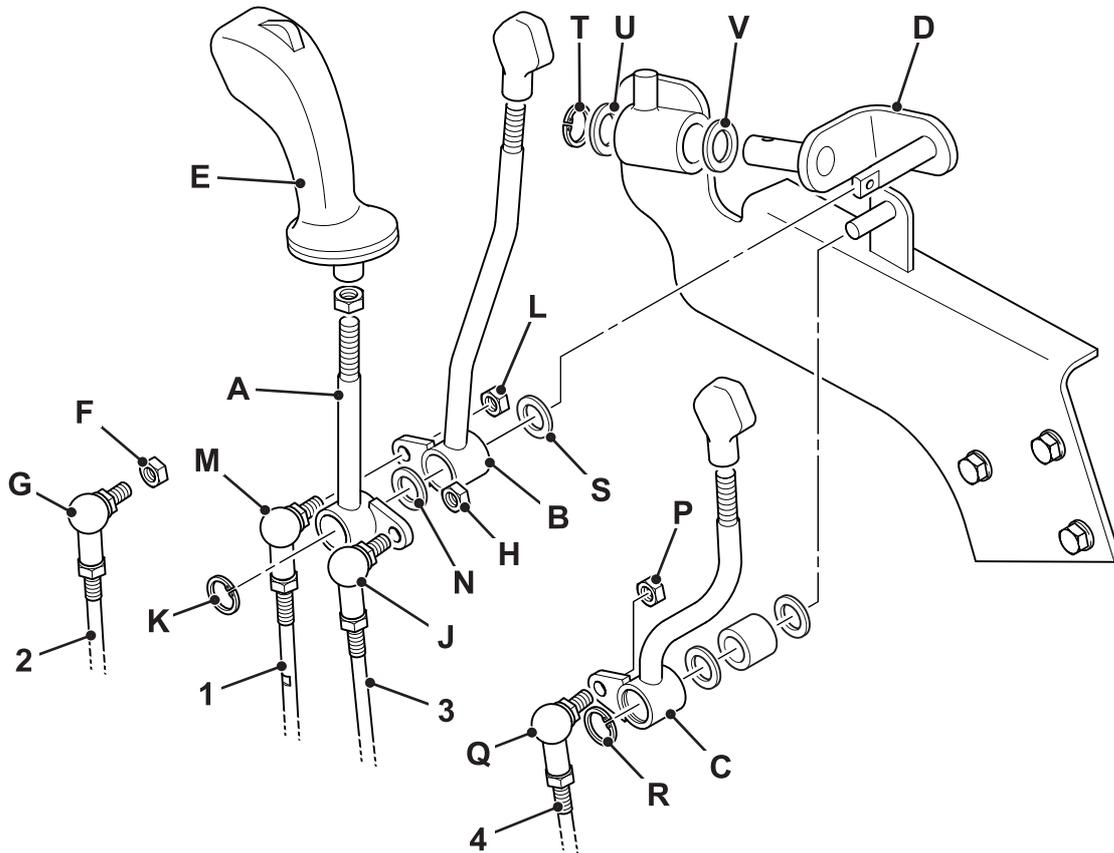

Fig 4.
- 3 Remove the joystick (E). → Removal \(□ D-3\).
- 4 Identify the control rod assembly (2) which connects to the control lever pivot (D). → Fig 4. \(□ D-4\).
- 5 Remove the nut (F) from the ball joint (G).
- 7 Identify the control rod assembly (3) which connects to the control lever (A). → Fig 4. \(□ D-4\).
- 8 Remove the nut (H) from the ball joint (J).
- 10 Remove the circlip (K).
- 11 Remove the control lever (A).
- 2 Identify the control rod assembly (1) which connects to the control lever (B). → Fig 4. \(□ D-4\).
- 3 Remove the nut (L) from the ball joint (M).
- 5 Remove the shim (N). → Fig 4. \(□ D-4\).
- 6 Remove the control lever (B).
- 2 Identify the control rod assembly (4) which connects to the control lever (C). → Fig 4. \(□ D-4\).
- 3 Remove the nut (P) from the ball joint (Q).
- 5 Remove the circlip (R).
- 6 Remove the control lever (C).
- 3 Remove the shim (S). → Fig 4. \(□ D-4\).
- 4 Remove the circlip (T).
- 5 Remove the shim (U).
- 6 Remove the control lever pivot (D) and the shim (V).